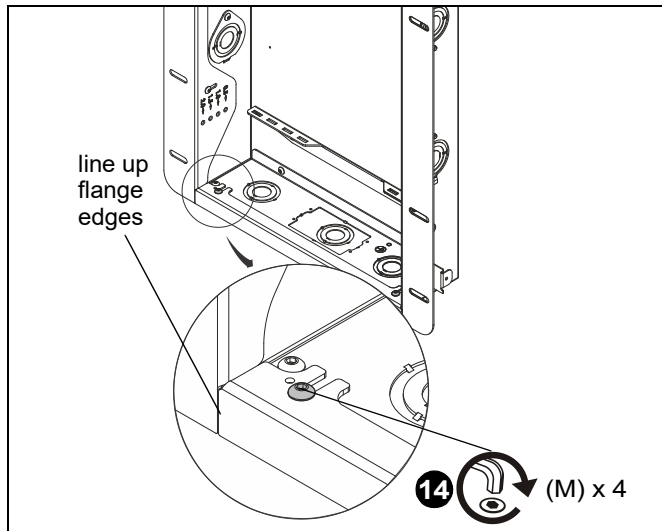

Figure 8
15. Tighten all screws (M) to secure top/bottom flanges (E) and side flanges (C), making sure all flange edges are lined up. (See Figure 8)